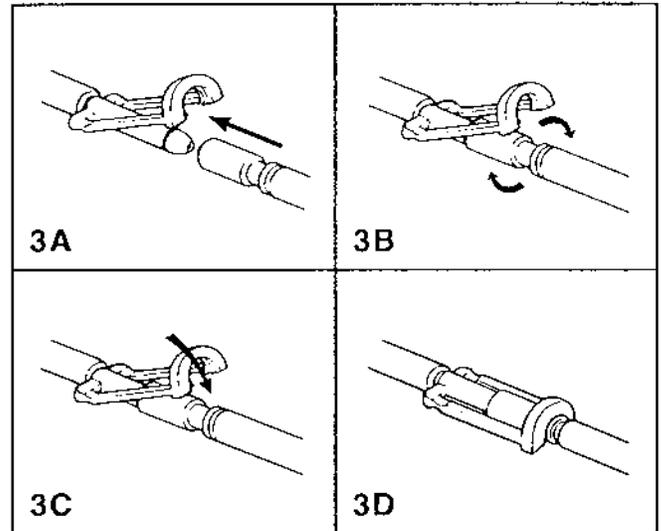

Figure 3—Clik-Tite® Connectors
Attached Hose	10 ft (305 cm) dual hose. Connectors allow pads to be connected to the pump (see figs. 3 and 4, p. 5).
1. Before filling the pump, always attach a pad to the connector hose or close the clamps on the connector hose ends (see figs. 3 and 4, p. 5). Then, unkink pad and hose. Open hose clamps.
2. Locking ring on Clik-Tite connector is not snapped into place (see fig. 3).	Snap Clik-Tite locking ring shut.